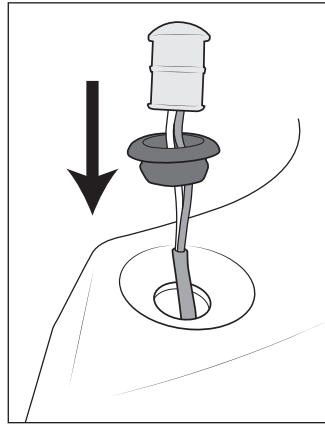

Figure 11
1. Install marker lights through grommets into flares (fig. 11). TIP: A little glass cleaner will help lubricate the grommets.